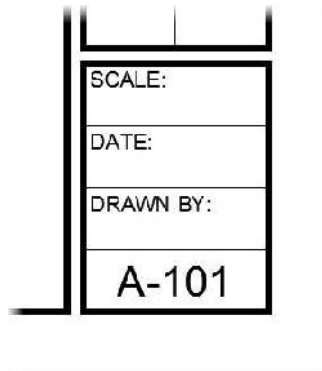

FIGURE 8.52: The sheet number text after being inserted
The sheet number text is correctly positioned within its designated block (see Figure 8.52).
11. With Polar Tracking on, use the MOVE command to move the text down and center it vertically in the box (see Figure 8.52).